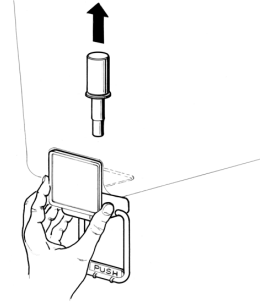

figure 3
6. Gravity faucet: extract the piston and then remove the dispensing handle (see figure 3).